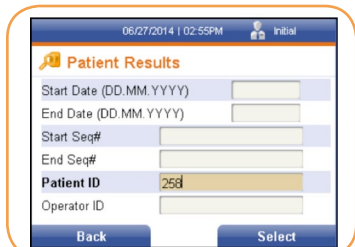

FIGURE 63
3. Using the [↓] key, cursor to the Patient ID text field. Enter the desired ID number in the text field using the numeric keypad (Figure 63).